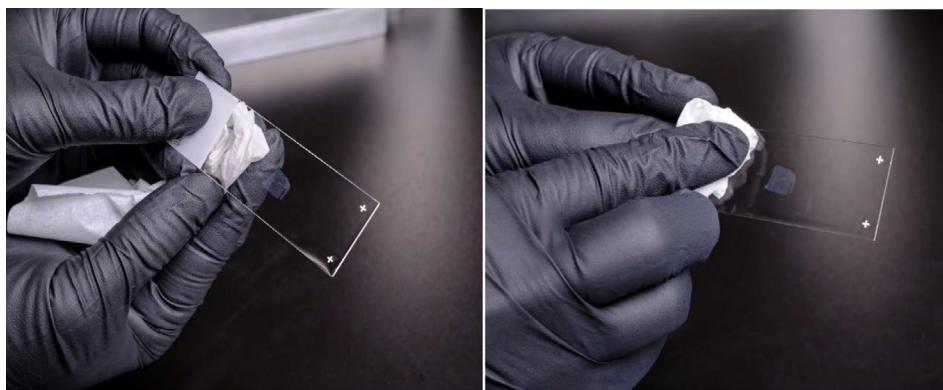

Figure 3.14. Sample slide dried with Kimwipe (left). Drying the sample slide while avoiding the sample (right).
14. Dry the back of the slide by wiping with a Kimwipe (or equivalent). (See Figure 3.14, left.)
16. Carefully use a Kimwipe to dry excess PBS around the tissue. Do not leave the tissue exposed to air for extended periods. (See Figure 3.14, right.)